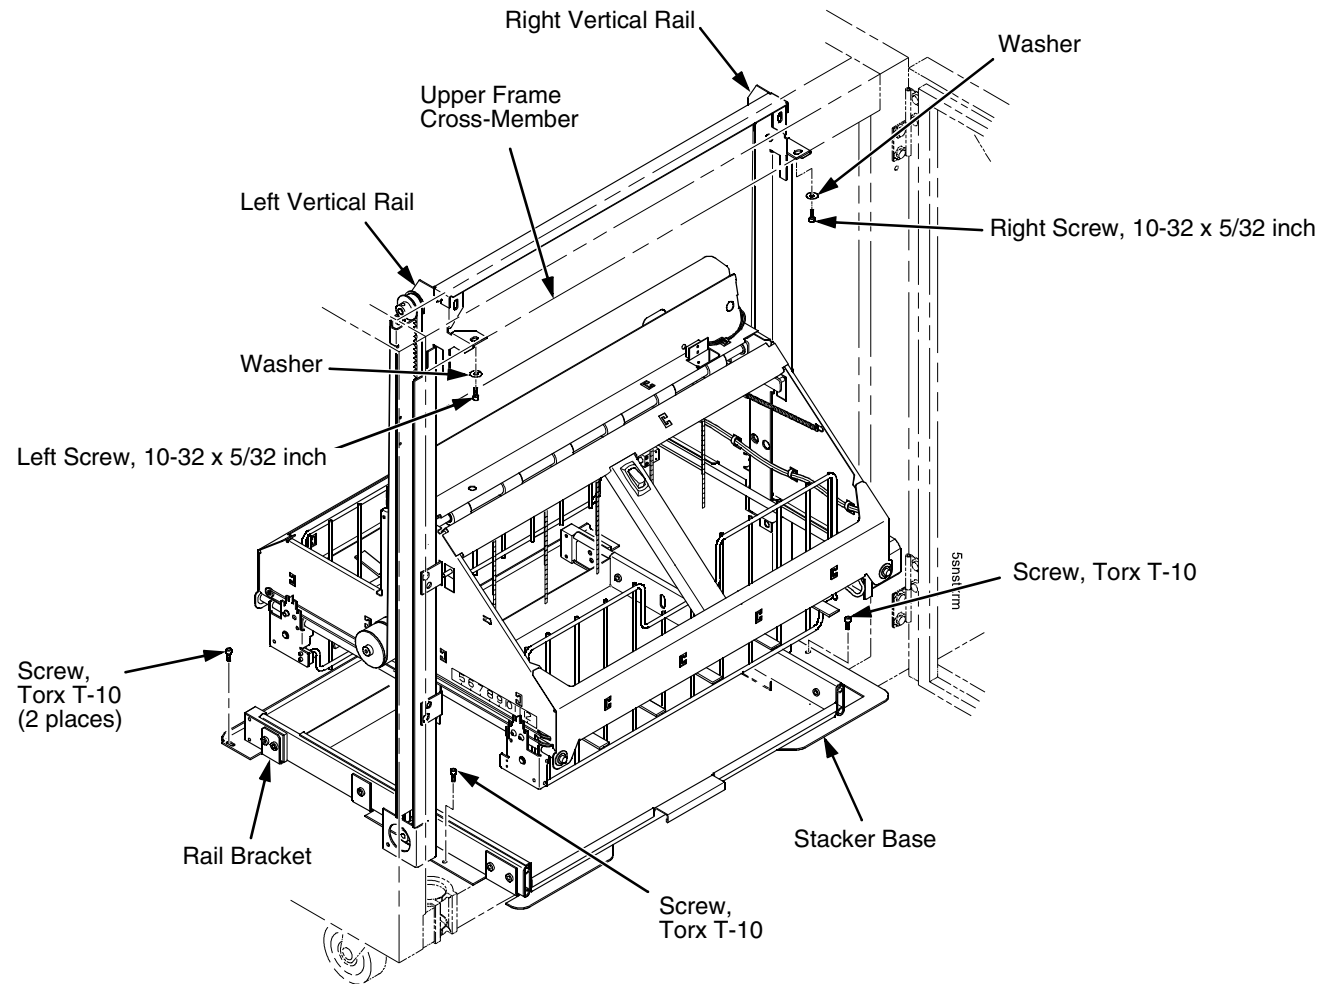

Figure 78. This figure shows which screws to install to secure the stacker assembly in the rear of the cabinet.
22. Align the holes in the vertical rail brackets with the holes in the upper frame cross-member. (Figure 77c and Figure 78.)
23. Align the holes in the stacker base with the holes in the cabinet floor. (Figure 77c and Figure 78.)
24. Install finger tight the 10-32 x 5/32 inch buttonhead screw and washer securing the left vertical rail to the upper frame cross-member. (Do not install the right hand screw yet.) (Figure 78.)
25. Install and tighten the two Torx T-10 screws securing the stacker base to the cabinet floor. (Figure 78.)
26. Install and tighten the two Torx T-10 screws that secure the rail bracket to the cabinet floor. (Figure 78.)
27. Install finger tight the 10-32 x 5/32 inch buttonhead screw and washer securing the right vertical rail to the upper frame cross-member. (Figure 78.)